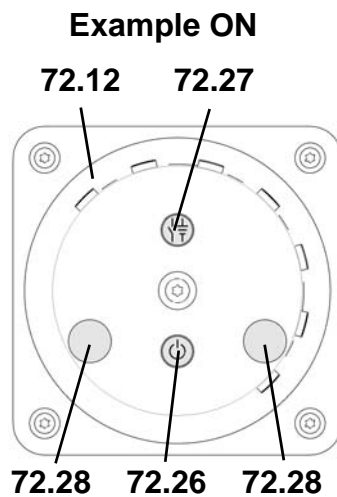
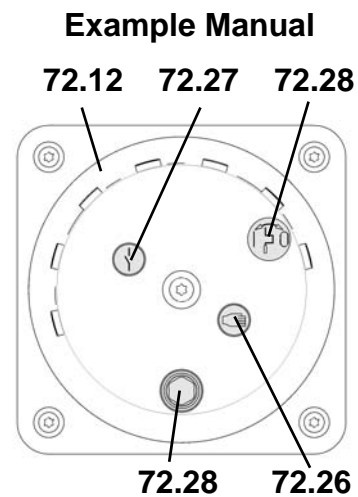
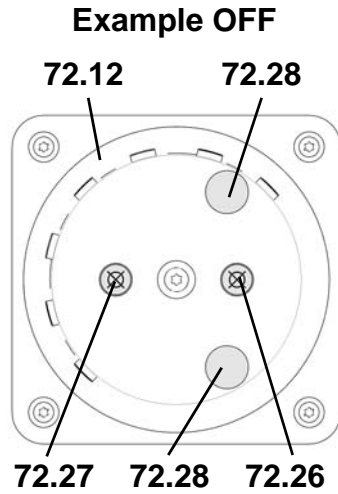

Figure 18
Figure 19
Figure 20
72.12 shows the selected operating mode (**Figure 18, Figure 19, Figure 20**).
The symbol in the application window 72.27 of the selector drum 72.12 shows the respective application if the application is a combination disconnector-earthing switch (**Figure 18, Figure 19, Figure 20**).
The symbols in the hand crank windows 72.28 of the selector drum 72.12 give the direction of rotation of the hand crank in the Manual operating mode 72.18 an (**Figure 18, Figure 19, Figure 20**).
The symbols for operating mode OFF 72.19 are displayed in the operating mode window 72.26 and the application window 72.27 (**Figure 20**) if the application is a combination disconnector-earthing switch.